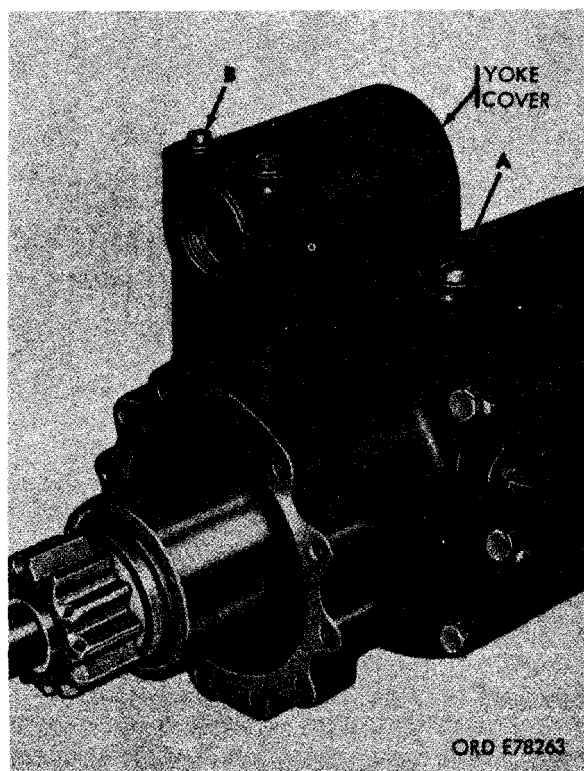

Figure 4-4. Removing or installing yoke cover attaching parts.
(1) Refer to figure 4-4 and remove yoke cover mounting screws as follows. (A) Remove two 1/4 x 11/16 fillister head assembled washer